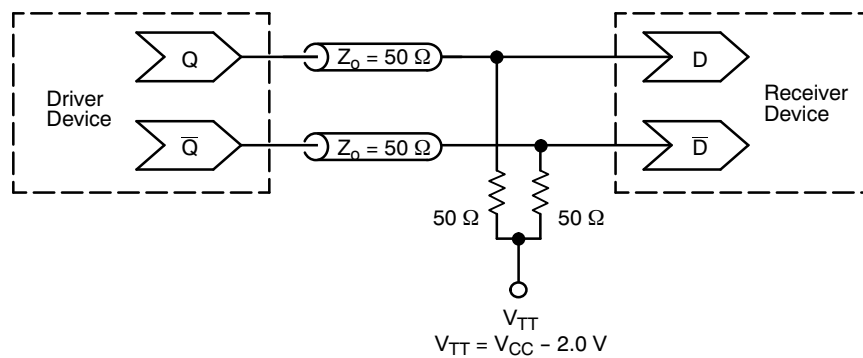

Figure 6. Typical Termination for Output Driver and Device Evaluation (See Application Note AND8020/D – Termination of ECL Logic Devices.)
- All outputs loaded with 50  $\Omega$  to  $V_{CC} - 2.0\text{ V}$ . See Figure 6.
12. All outputs loaded with  $50\ \Omega$  to  $V_{CC} - 2.0\text{ V}$ . See Figure 6.
15. Measured with PECL 750 mV source, 50% duty cycle clock source. All outputs loaded with  $50\ \Omega$  to  $V_{CC} - 2.0\text{ V}$ . See Figure 6.